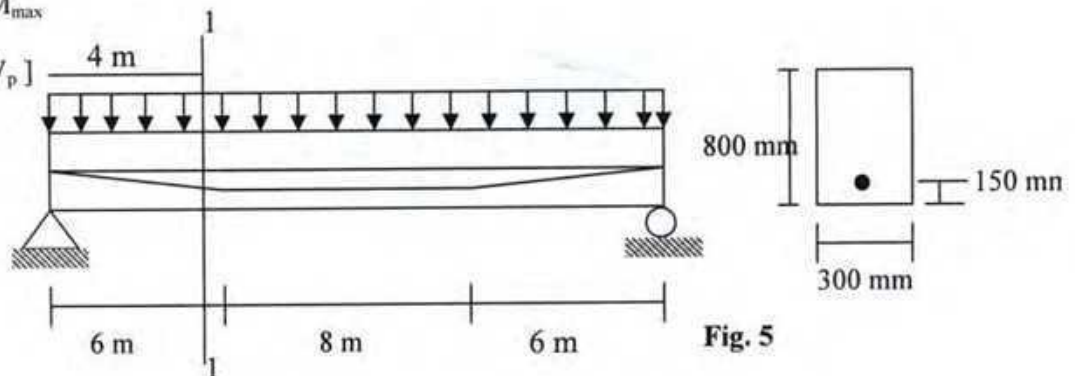

Fig. 5
5. (a) A rectangular prestress concrete beam is shown in Fig.5. with deflected cable layout. It has to carry a superimposed dead load of 12 kN/m and service live load of 16kN/m in addition to its own weight. Prestressing steel is 1720 MPa Grade strands with total area 1760 mm². Calculate the flexural shear and web shear resistance of concrete at a section 4m from left support. Hence, find the vertical U-stirrup requirement of the said section. [16]